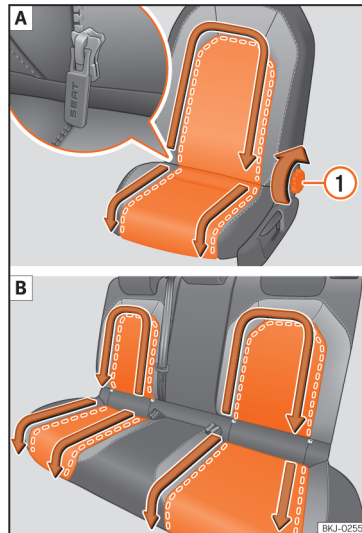

Fig. 114 Remove the covers. **A** Left front seat; **B** Rear seats
- Move the seat backwards until the handle of the zip is completely accessible »» Fig. 114 ①¹⁾.
- Move the handle of the zip in the direction indicated by the arrow »» Fig. 114. The removable cover is released.
- Move the handle of the zip against the direction indicated by the arrow »» Fig. 114.